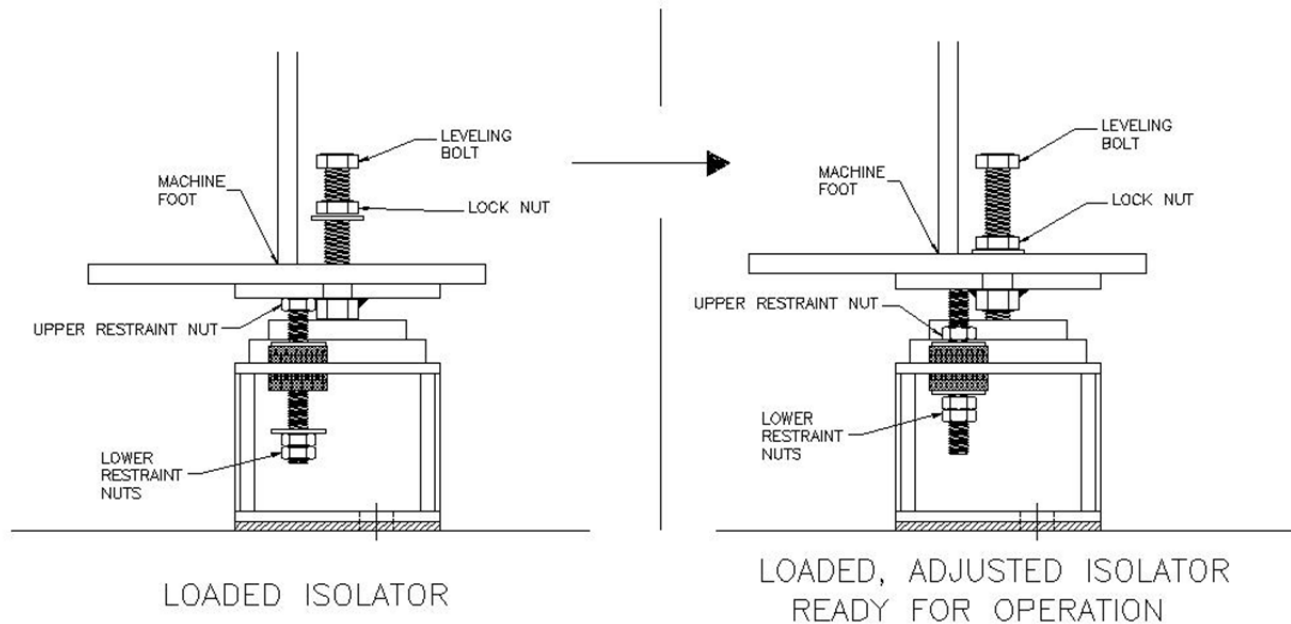

Figure 4
10. Tighten isolator locknuts. Return upper and lower restraint nuts to original position. The restraints nuts should be left loose. The springs should supply all support, the restraining nuts are provided to limit motion beyond typical operating movement. (See Figure 4)